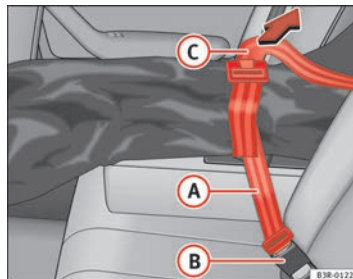

Fig. 129 Fastening the ski bag in the seatbelt buckle
- Insert the fastening belt  ⇒ page 150, fig. 129 of the ski bag into the centre seat belt buckle .